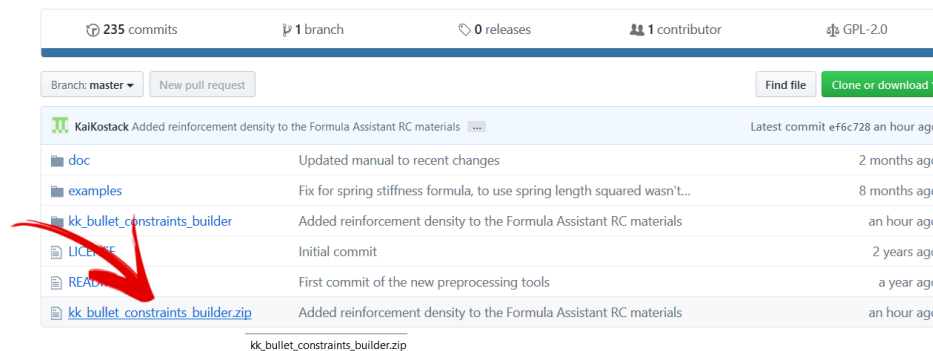

Figure 3
1. Download the BCB from this site: <https://github.com/KaiKostack/bullet-constraints-builder>. Localize the file “kk bullet constraints builder.zip”, click on it, Figure 3.